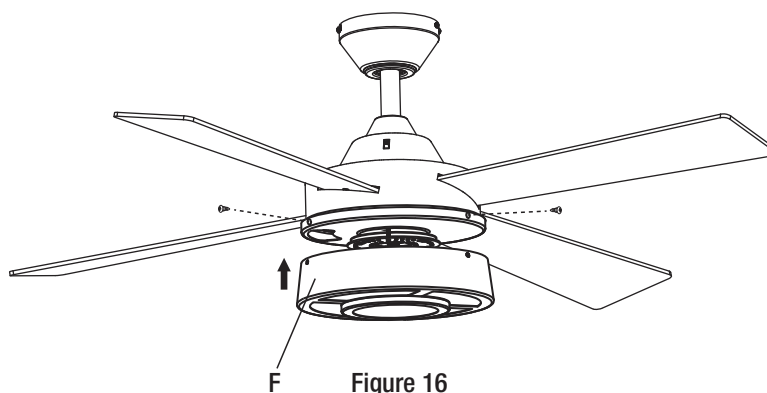

Figure 16
- Remove the screws on the light kit and save them. Attach the lamp shade (F) to the light kit with the screws, then tighten screws. (Figure 16)